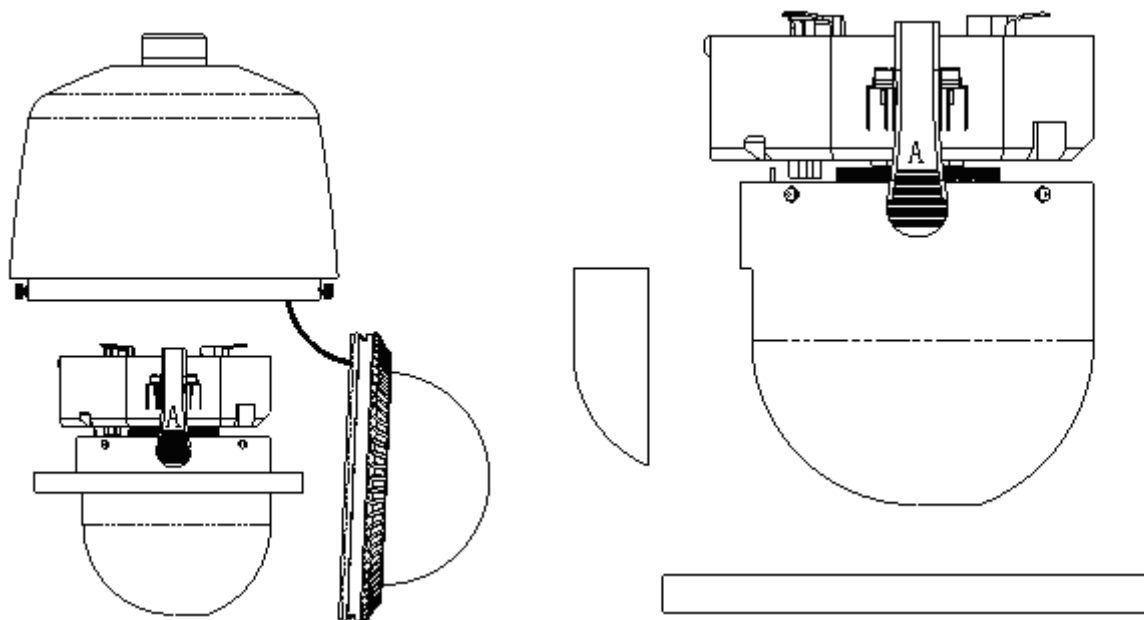

Figure 1.2.1 Open bubble and remove the expand aple poly ethylene and protective sticker from dome drive
2. Open the bubble and remove the expand aple poly ethylene and protective sticker from the dome drive. Refer to Figure 1.2.1.